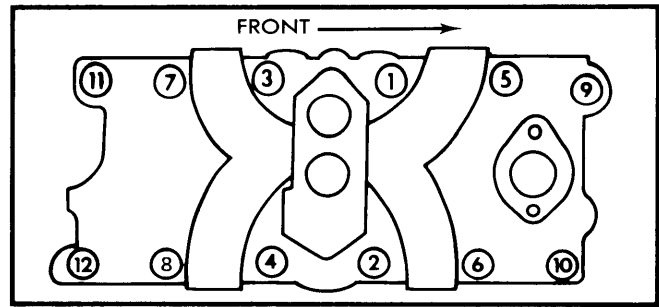

Fig. 1 Intake Manifold Tightening Sequence
2) Position intake manifold on engine. Inspect seals for correct positioning and install attaching bolts finger tight. Tighten cap screws in two steps, first tightening to 25 ft. lbs., then retightening to 40 ft. lbs. in sequence shown in Fig. 1.